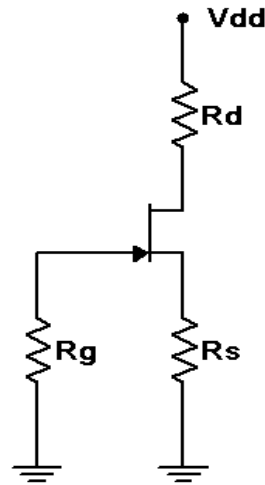

Figure 2
3. Consider the circuit of Figure 2 using $V_{DD} = 15$ volts, $R_g = 330\ \text{k}\Omega$, $R_d = 4.7\ \text{k}\Omega$, and $R_s = 2.2\ \text{k}\Omega$. Using the values of Table 1, calculate and record the expected voltages for JFET 1 in Table 2. Also record the expected drain current in Table 3.
4. Build the circuit of Figure 2 using $V_{DD} = 15$ volts, $R_g = 330\ \text{k}\Omega$, $R_d = 4.7\ \text{k}\Omega$, and $R_s = 2.2\ \text{k}\Omega$. Measure and record the voltages for JFET 1 in Table 2. Based on V_D , compute and record the experimental drain current in Table 3. Also determine and record the drain current deviation.